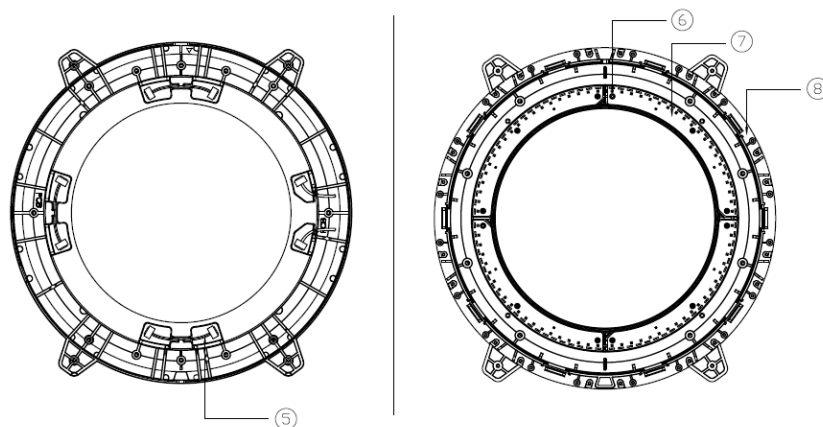

Figure 10-2
As shown in Figure 10-2, remove the 5 DuPont cable⑤ on the back of the Main Body Support-Up, remove the 12 screws⑥ on the front side, remove all illumination boards⑦(RVM100-ILL-WHITE) and the Main Body Support-Up⑧(RVM100-MBS-UP). The specification of the screw is the self-tapping screw, ST2*6mm.